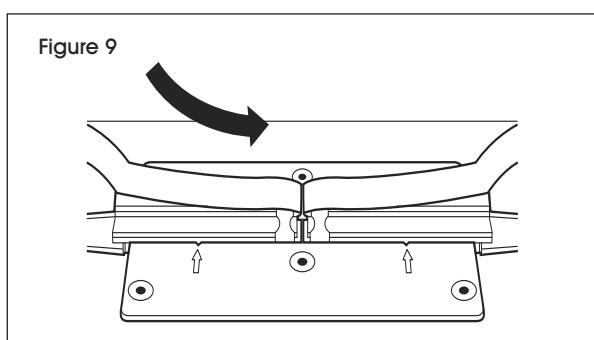

Figure 9
9. Snap left-hand nozzle into place on white nozzle plate. An audible "click" will be heard to confirm that the nozzle is engaged. (See Figure 9)